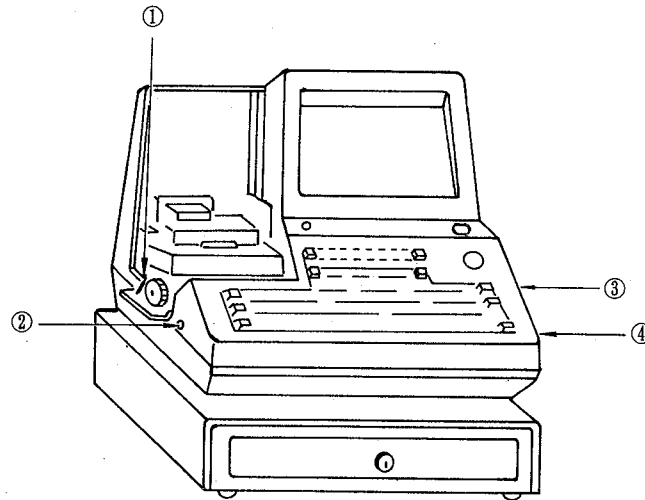

Fig. 13
- (3) Remove the screws (4 pcs.) as shown in Fig.13, and remove the upper cabinet.